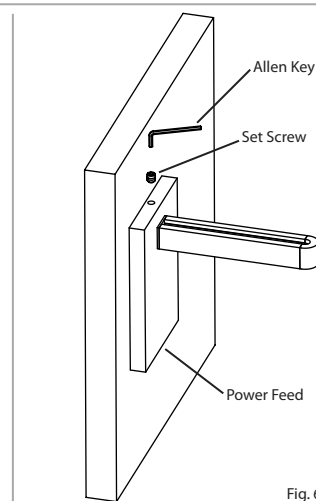

Fig. 6
5. While holding the reflector ring in place, screw the **Trim Ring** into the **Cylinder Light Engine** (Fig. 6).
17. Attach **Power Feed** to mounting bracket. Secure using **Set Screw** and included **Allen key** (Fig. 6).